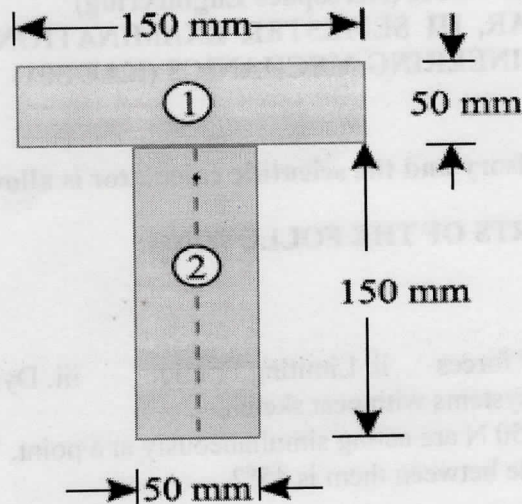

Figure: 3
- c) Find the moment of inertia of a T-section with flange as $150 \text{ mm} \times 50 \text{ mm}$ and web as $150 \text{ mm} \times 50 \text{ mm}$ about X-X and Y-Y axes through the centre of gravity of the section. Fig. 3.